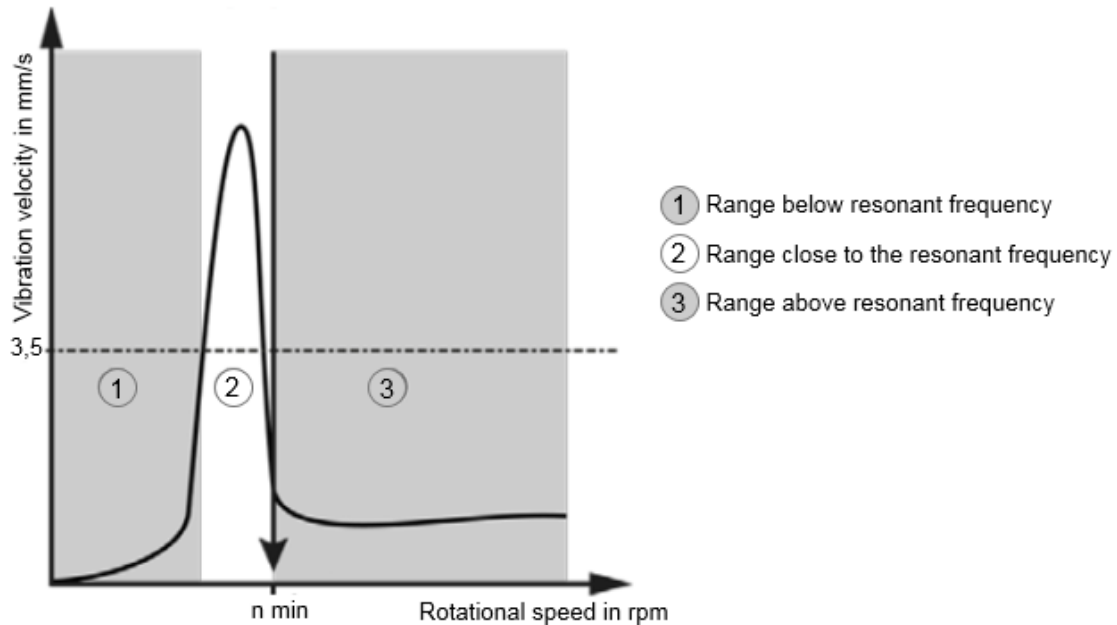

Figure 205: Typical vibration curve
2. Open the over the disk circumference distributed screws (position see **Figure 205**)